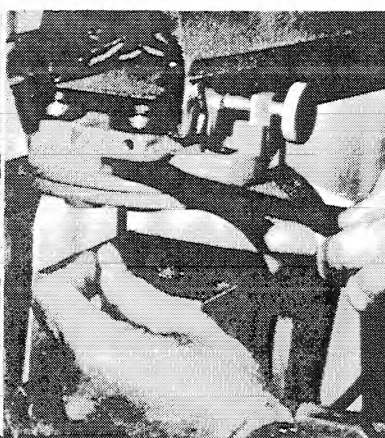

Figure 7
4. ADJUSTING ROLLERHEAD BEARINGS TO ARM TRACKS (figure 7)